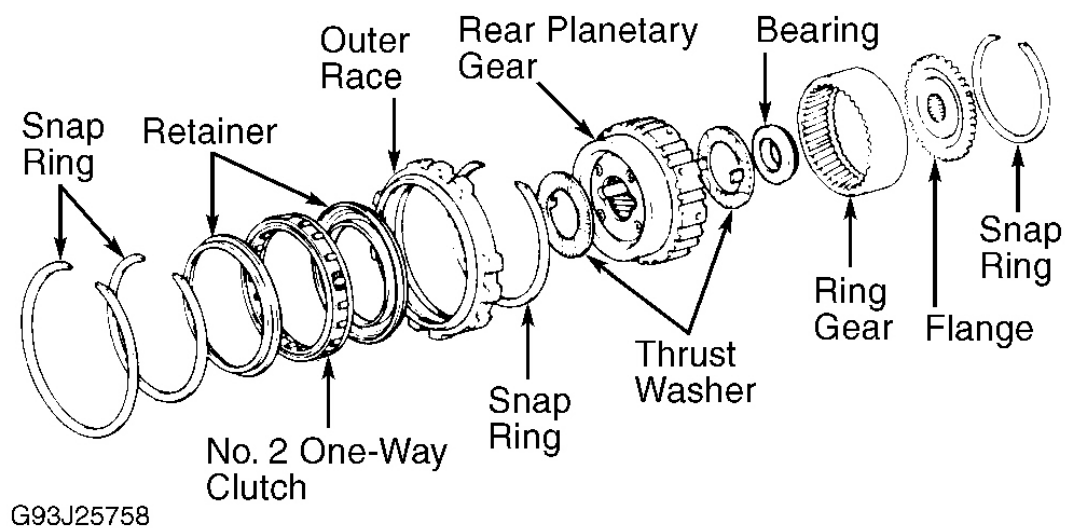

Fig. 28: Exploded View Of Rear Planetary Gear
2. Remove thrust washer(s) from rear side of planetary gear. Remove snap rings and retainers from both sides. Remove No. 2 one-way clutch from outer race. See **Fig. 28** .